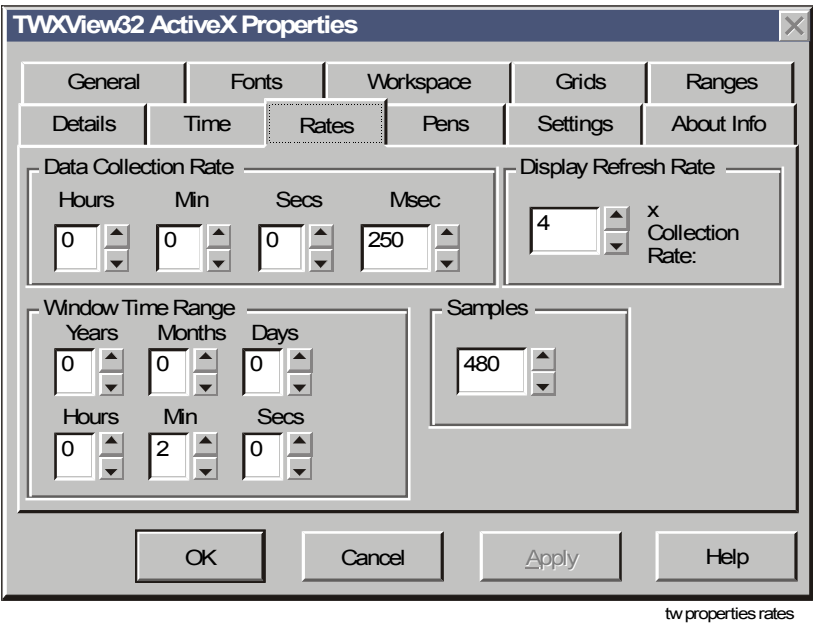

Figure 14-13: TWXView32 ActiveX Properties Dialog Box: Rate Tab
2. Select the Rate tab (Figure 14-13).